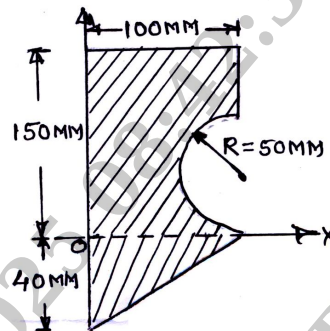

Fig.Q.8(c)
- c. Locate the centroid of the shaded area as shown in Fig.Q.8(c) with respect to point 'O'.